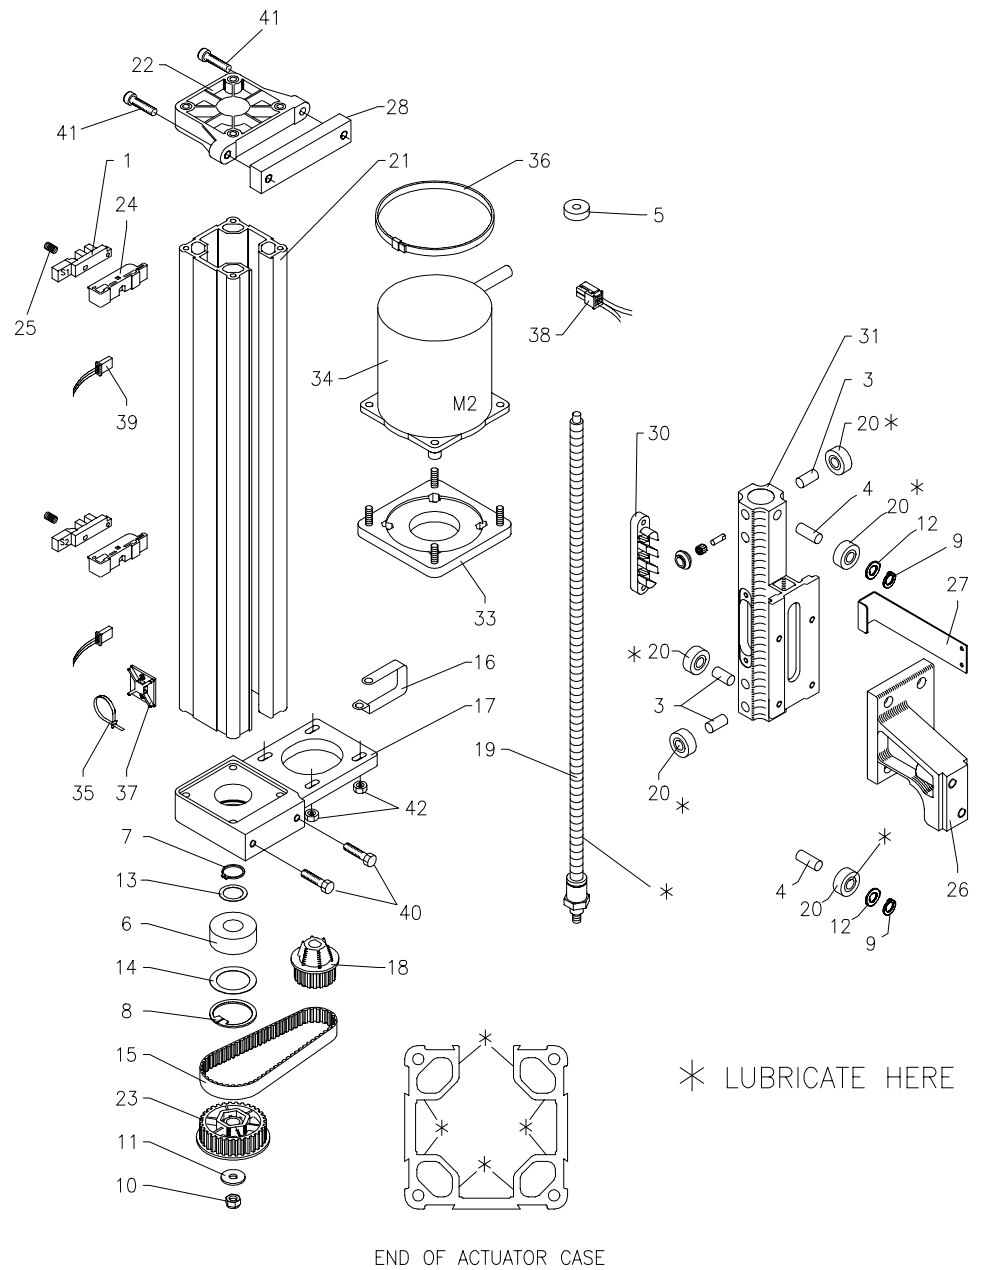

Figure 7-10
3. Unplug lifter motor harness (Item 38 in Figure 7-10) .
4. Unplug the two sensor harnesses (Item 39 in Figure 7-10).
6. Remove the 4 mounting screws (Items 40 and 41 in Figure 7-10) holding the linear actuator to the machine frame, and remove the linear actuator.
7. Remove the end cap (Item 22 in Figure 7-10) from the linear actuator case.
8. Carefully pull the linear actuator carriage (Item 31 in Figure 7-10) and guide rollers (Item 20 in Figure 7-10) from the case.
9. Remove the carriage extension (Item 26 in Figure 7-10) from the carriage.
10. Remove the four actuator nut roller assemblies (Item 30 in Figure 7-10) from the carriage.
11. Remove the linear actuator case from the motor mount (Item 17 in Figure 7-10) by removing the four mounting screws.
12. Clean old grease and dirt from all parts and the inside of the case. Also clean off the lead screw (Item #19 in Figure 7-10).
15. When reinstalling the actuator nut roller assemblies (Item 30 in Figure 7-10), torque the M4 retaining screws to 30 in-lb and secure with blue Loctite.